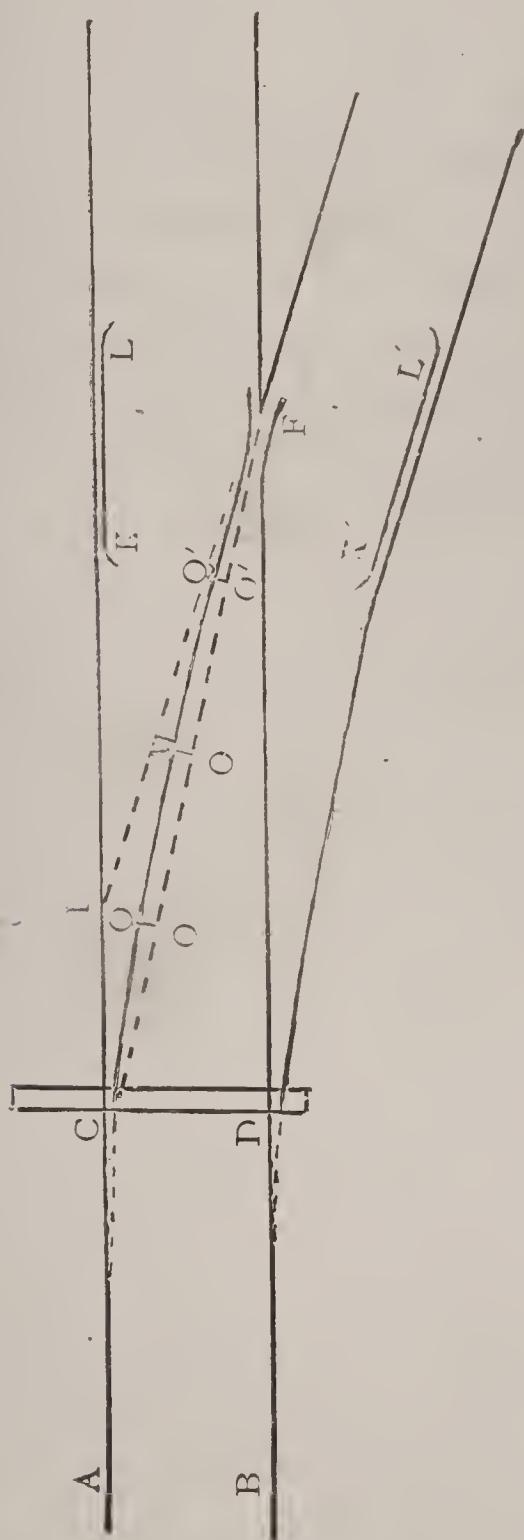

Fig. 8.
- 1, TURNOUTS, Fig. 8—2, Laying Switches—3, Split or Point Switches, Figs. 9 and 10—4, To Change a Stub to a Split Switch—5, Description and Table 1—6, Description and Table 2—7, Frogs, Fig. 11—8, Laying Frogs in Track—9, Length of Frogs—10, Guard Rails—11, If there is no Standard—12, Switch Timbers—13, To Cut Switch Ties the Proper Length—14, Tamping Switch Ties—15, Putting in Three Throw Switches—16, A Derailing of Switch, Fig. 12—17, Turnouts From Curves—18, To Reach a Side Track with a Reverse Curve Behind the Frog, Fig. 13—19, Round House Tracks—20, Another Method—21, Fig. 14, Cross over Tracks—22, Table of Distances Between Frogs in Crossover Tracks—23, Parallel Tracks—24, How to Ascertain the Kind of Frog Needed, Fig. 15—25, Spur Tracks—26, To Straighten Rails in Track.
The common or “stub ” switch, consists of a pair of connected rails, A C, and B D, Fig. 8, so arranged that while one end is fixed, the other can be moved so as to be a part of either the main track, or turnout. The fixed end is called the “heel,” and is the beginning of the turnout curve. The other end is called the “toe,” and the distance it moves in passing from main track to the turnout rails, is called the “throw.” The toe rests on a large piece of timber, called the “head block,” on which are placed the “head chairs,” and “switch stand.” The rails between the head block and frog, are called “lead rails.” The “total lead,” includes the switch and lead rails, and should be a simple curve considered as joining the two long ends, one of them, IF, is the turnout line of the frog produced, until it intersects the opposite rail, the other I A, is the opposite rail. As two tangents to a curve from any point are equal, I F, and I A. are equal. The length of lead depends on the gauge and frog number, and is equal to the gauge multiplied by twice the frog number. The switch rails are spiked for a certain part of their length, then when they are thrown, the free end will bend to an arc of a circle, and fit the line of lead. K L, and K' L' are called guard rails,
Stretch a cord from point of frog to the toe of switch, see Fig. 8, and mark its center and quarter points. Spike the center to an ordinate of seven inches, and each of the quarters to an ordinate of  $5\frac{1}{4}$  inches and you will have the true line of the lead curve.
5. Turnout Table I gives all the data necessary for lay out turnouts, whether single or double, from straight track or curves, and for any frog number. In the first column are given frog numbers, increasing by halves from 5 to 12; the angles corresponding to them in the second column. In the third column will be found the distance, C F, Fig. 8, from point of frog to head block or heel of switch. In the 4th the length of switch rail for a 5 inch throw. Column 5, 6 and 7 show respectively the tangent, radii and degree of curvature. Column 8 and 9 show respectively the middle, and quarter ordinates of the chord, C F, Fig. 8. Column 10 and 11 gives a rate of change in the middle and quarter ordinates per degree of main track curve, and is to be added or subtracted respectively, as the turnout is laid with or against the main track curve. Column 12 gives the distance from head block to middle frog point within throw switches. Column 13 and 14 shows the middle frog angles and their corresponding numbers.